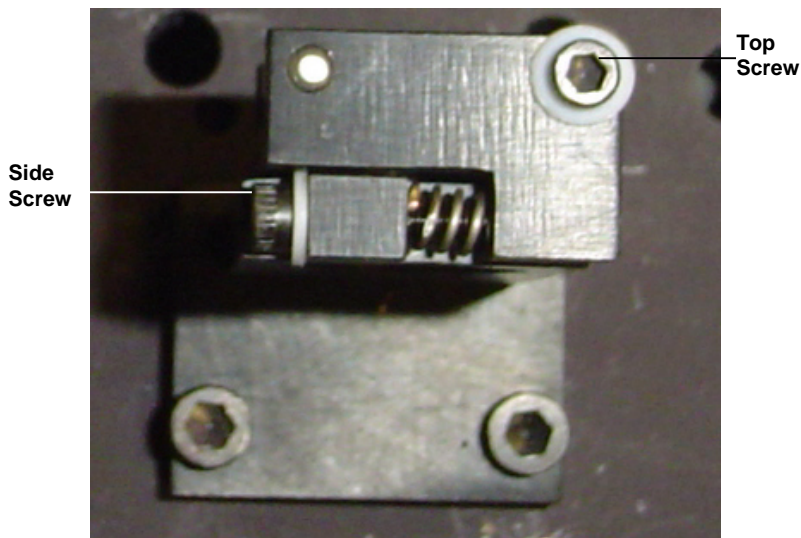

Figure 3-4: Steering Lens Adjustment Screws
- m) Turn the laser back on. Although the beam is no longer level, it still needs to be straight (centered on the center of the target). Use the screw on the side of the steering lens (Figure 3-4) to adjust the beam so it is centered on the target.